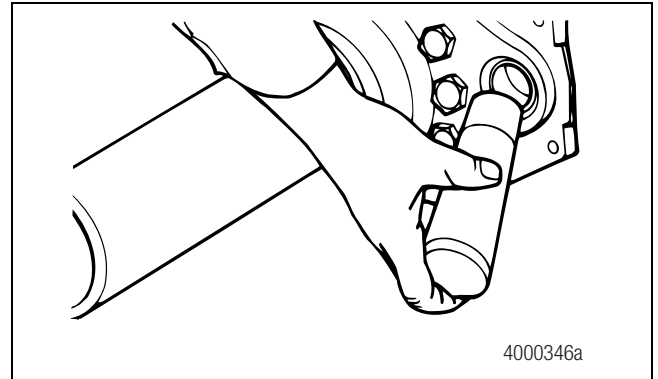

Figure 4.5
- Use a seal driver to install new camshaft seals and new bushings into the cast spider and camshaft bracket. Figure 4.5.